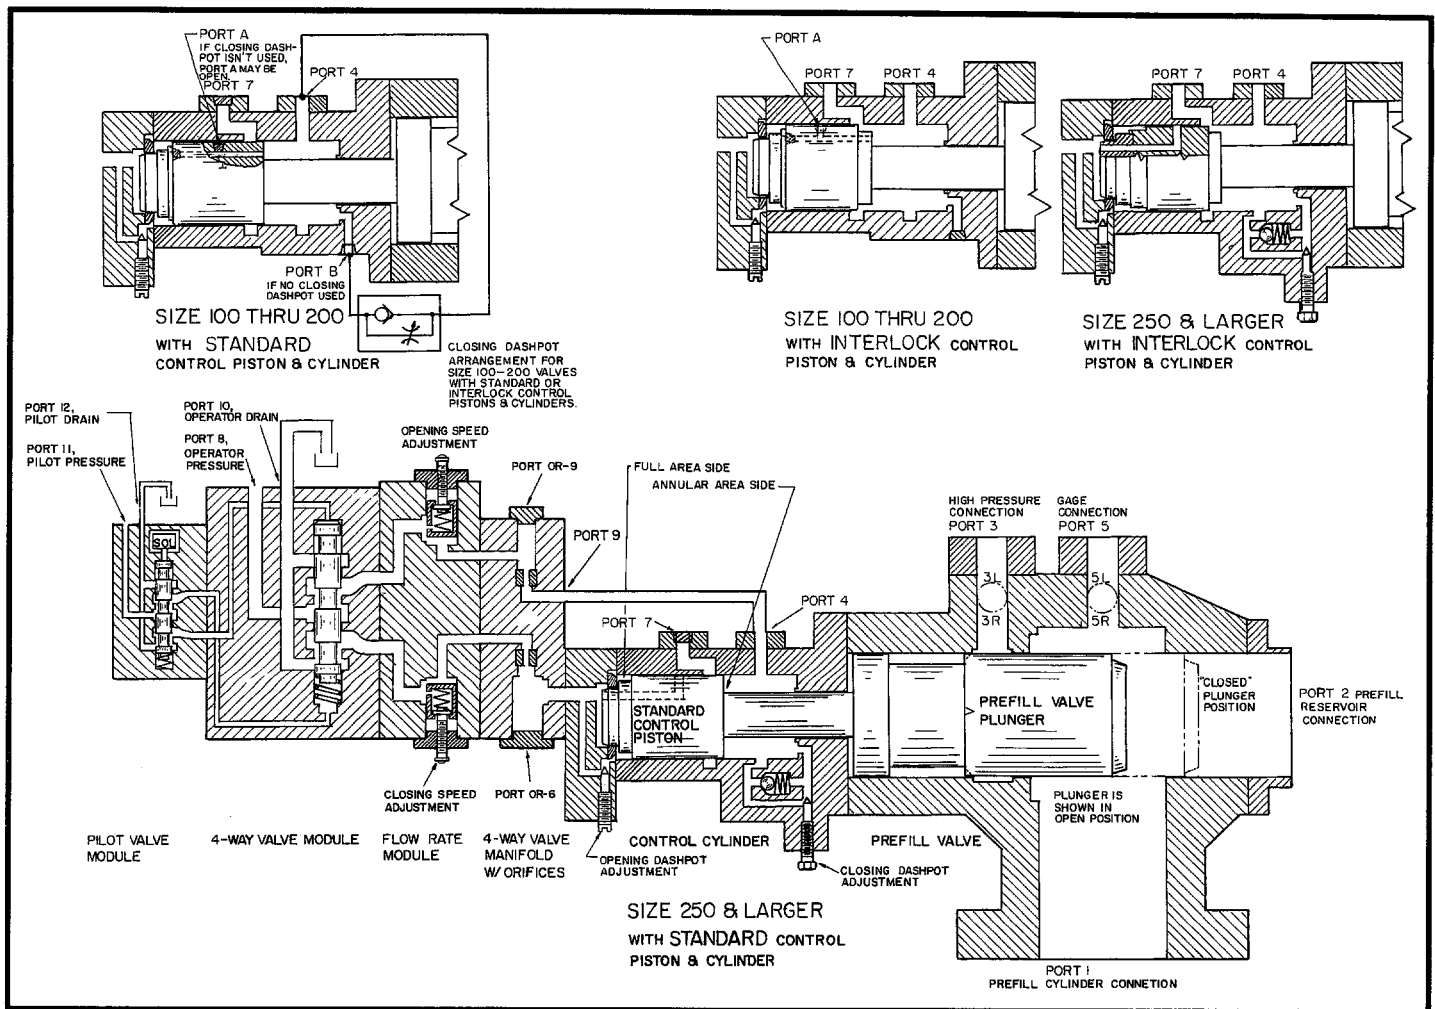

Figure 2. Schematic Cutaway Diagram, Prefill Valve with Solenoid Pilot Four-Way Valve and Meter-In to Open/Meter-In to Close Operator (5V-12040-L Sheet 1).
Refer to Figure 2. The principle parts of this operator are a dashpot nose (310) on the control piston, a floating dashpot sleeve (302) in the rear head (300), and a module adapter block (315). Attached to the adapter block are a four-way valve operator manifold (375), a flow control module (380) and a four-way valve (390). Optional limit switch assembly (340) or visual tell tale assembly (325) may also be mounted on the module adapter block (315).
See Figure 2. When the solenoid of the pilot valve is de-energized, the **spool** end of the 4-way operator valve is connected through the pilot valve to drain. The operator valve spring (or pilot pressure from port 11) positions the operator spool to allow pressure from Port 8 to flow (restricted) thru the adjustable opening of the opening speed flow control valve, thru an (optional) orifice, thru Port 9 to Port 4 and to the annular area side of the control piston thus opening the prefill valve plunger. The plain control piston moves at a constant rate as fluid is forced from behind the control piston thru an (optional) orifice, against the spool of the closing speed flow control valve (compressing the spring and opening the valve fully) and allows free flow to (and thru) the directional control valve and out Port 10 to drain. An opening dashpot slows down and cushions final stroke of the control piston as flow from the dashpot area is metered out by a needle valve built with the operator.